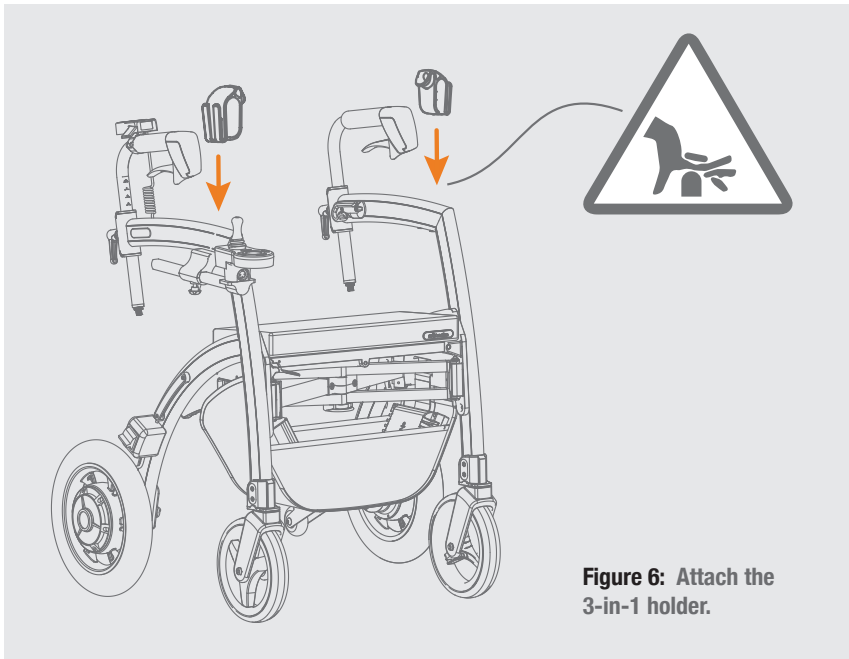

Figure 6: Attach the 3-in-1 holder.
- a. Slide the armrests as far back as possible, the two holder should be placed in front of the armrests, with the shopping hooks facing outside, as seen on **Figure 6**.
- b. Attach the holders by pressing it down onto the frame **(Figure 6)**.